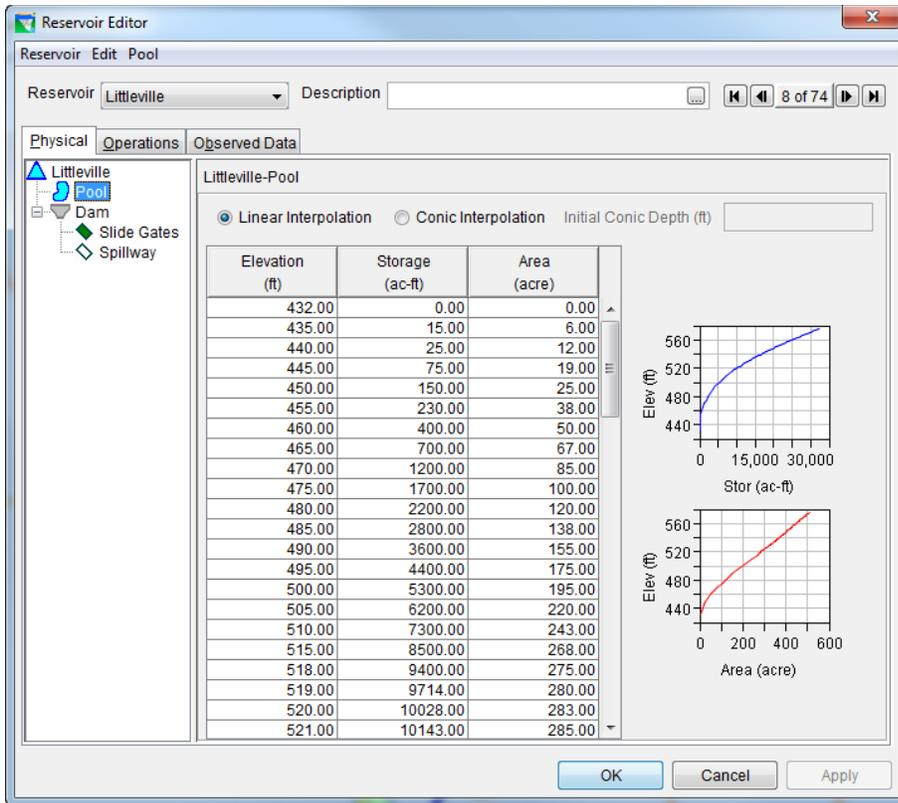
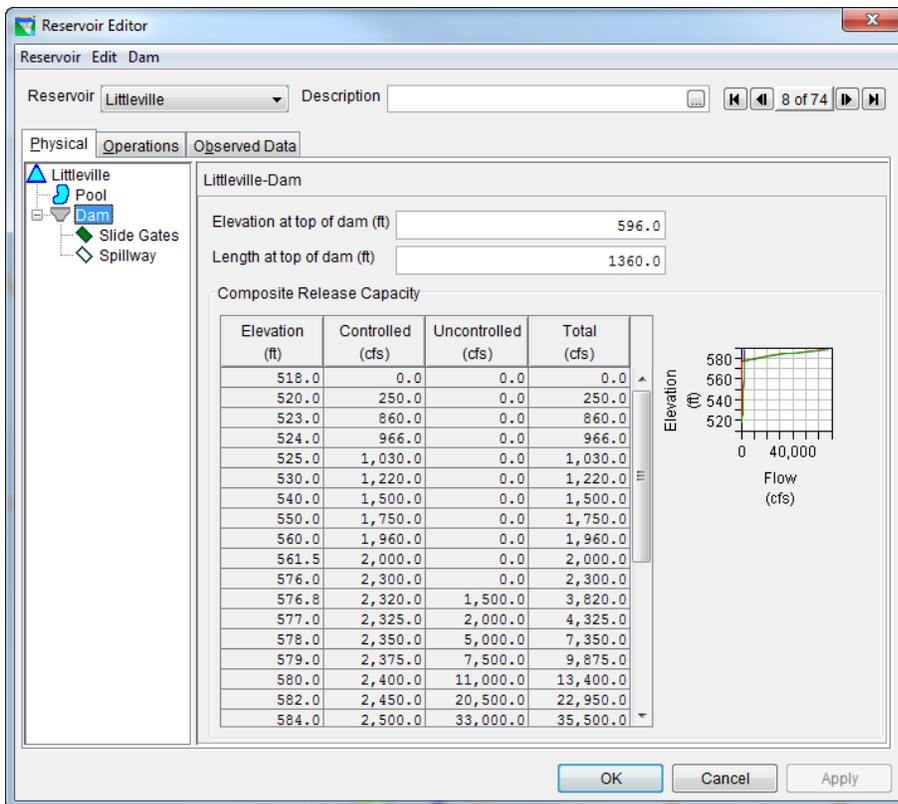

Figure 3: Reservoir Editor: Physical Tab -- Pool
Figure 4: Reservoir Editor: Physical Tab -- Dam
The physical characteristics of the reservoir are separated between the Pool and the Dam in the HEC-ResSim model. The elevation-storage-area defines the pool as shown in Figure 3. The dam consists of two types of outlets: (1) controlled slide gates, and (2) uncontrolled spillway, as shown in Figure 4. All physical and operations data were provided by US Army Corps New England District, through both personal correspondence and the Reservoir Regulation Team website58.